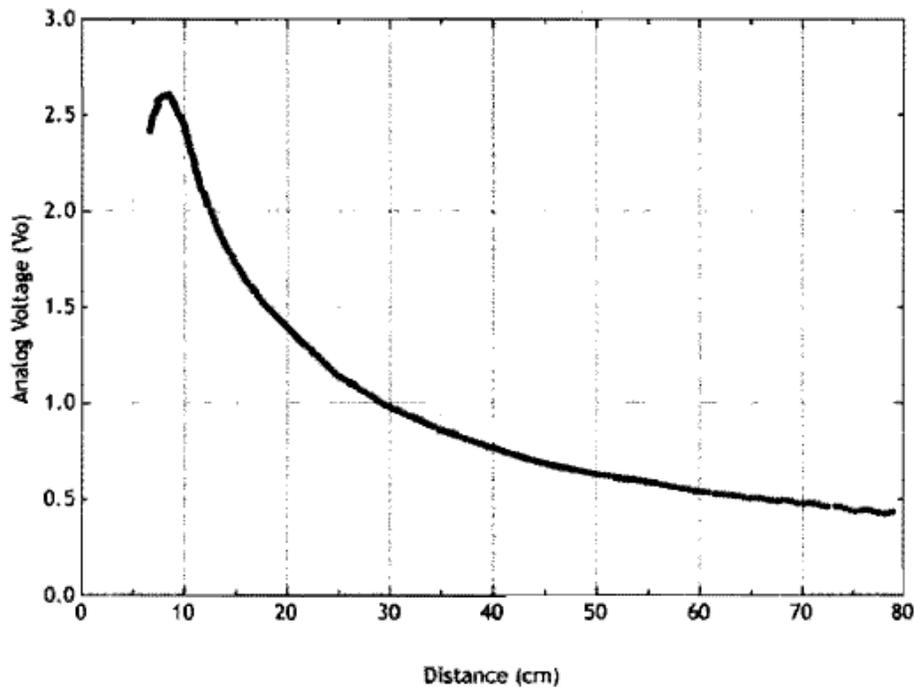

Figure 2.3: Analog Output vs. Distance to Reflective Object [2]
“The angles in this triangle vary based on the distance to the object.”[1] “The receiver portion of these new detectors is actually a precision lens that transmits the reflected light onto various portions of the enclosed linear CCD array based on the angle of the triangle described above.”[1] “The CCD array can then determine what angle the reflected light came back at and therefore, it can calculate the distance to the object.”[1] Depending on the distance of the object being reflected off of, the sensor will return a different raw voltage value. The graph in figure 2.3 illustrates this voltage curve. Based on the distance between the IR sensors mounted on daNI, and the surface daNI is placed on, the IR sensor will output a specific voltage. This voltage will be approximately equal to 1.2v for daNI’s current setup. When daNI approaches an edge, the IR sensors voltage will change. If the voltage changes to a value lower than approximately 1.2v the robot should “know” an edge is present and change its course.
- Step 1. For this sensor, we want to read the raw analog voltage and compare it to the graph on Figure 2.3. In order to accomplish this, you will want to connect the Vcc pin of the sensor to pin j2 on the FPGA board.